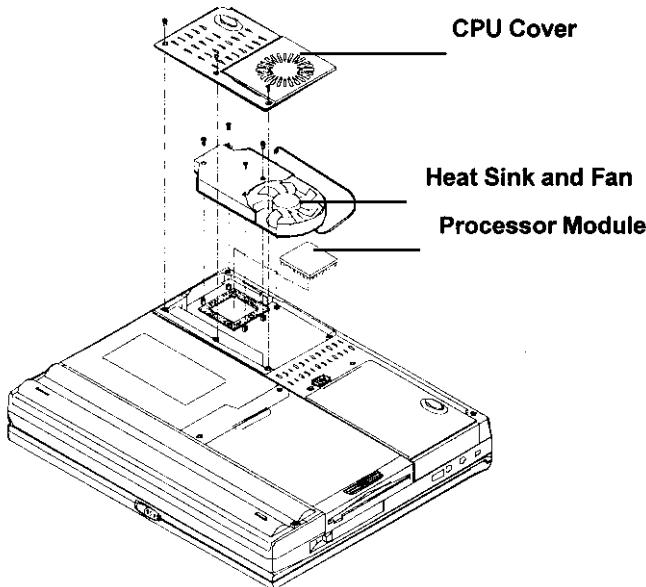

Figure 2-1
5. Carefully detach the processor from the mainboard (Figure 2-1).